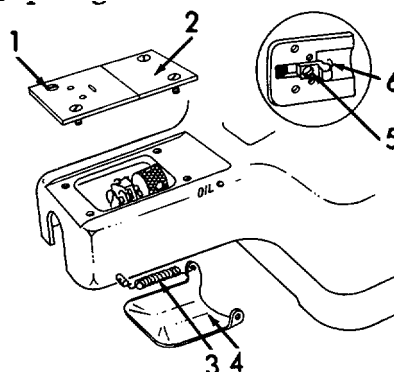

Figure 6-147. Needle Plate and Finger Guard, Removal.
a. Removal (Refer to Figures 6-147 and 6-148).
- (1) Refer to Figure 6-147. Remove four screws (1) and needle plate (2).
- (2) Remove spring (3) and finger guard (4).
- (3) Remove screw (5) and guide block (6).